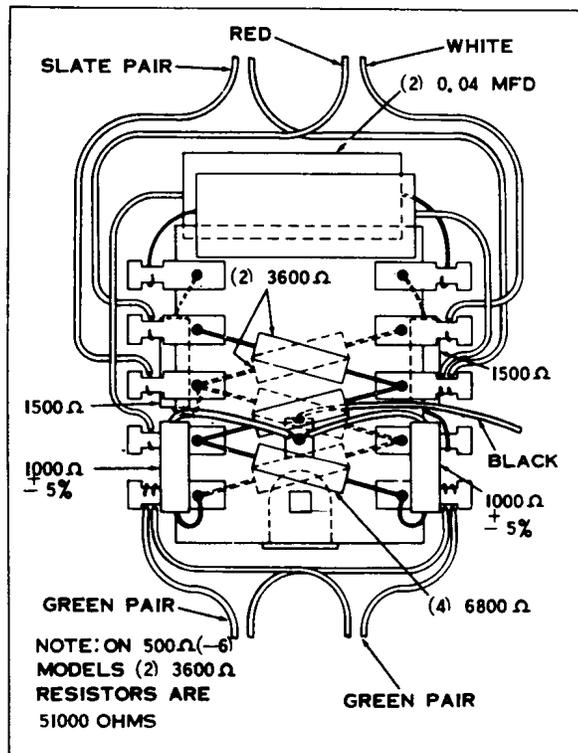

FIG. 5
- Figure 5 Attenuating-Pad Connections